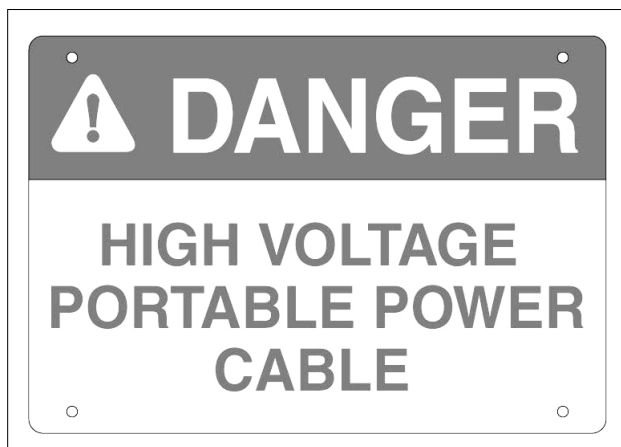

Figure 66-1 Danger Sign
1. Ensure that the danger signs are in place and visible at each end of the travel lane. See Figure 66-1.